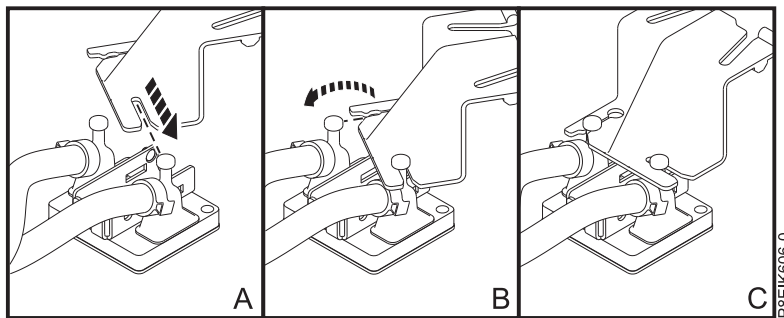

Figure 30. Inserting the cold plate pins into the holder
- b. Slide one cold plate pin into the holder as shown **(A)** in Figure 30. Push the pin into the slot only as far as is needed.
- c. Pivot the cold plate to slide the other pin into the holder as shown in **(B)** in Figure 30. Push the pin into the slot only as far as is needed.